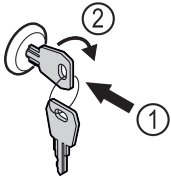

Fig. 105
- ▶ Insert key Fig. 105 (1).
- ▶ Turn key clockwise by 90° Fig. 105 (2).